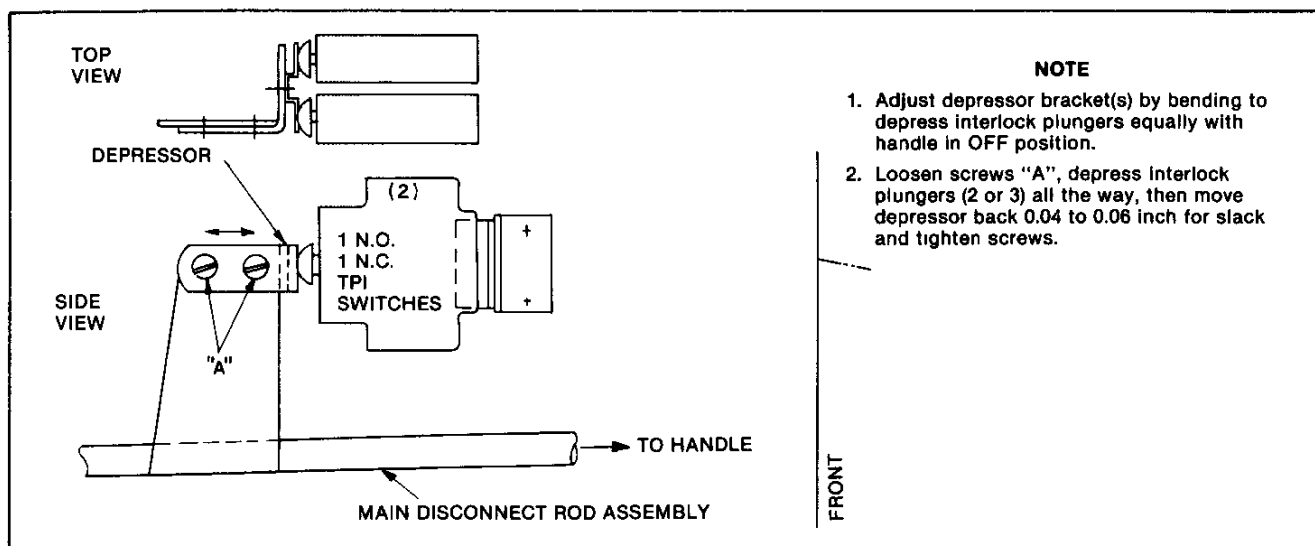

Figure 58. Checking test power interlock adjustments.
3. Check test power interlock adjustment. See Figure 58.